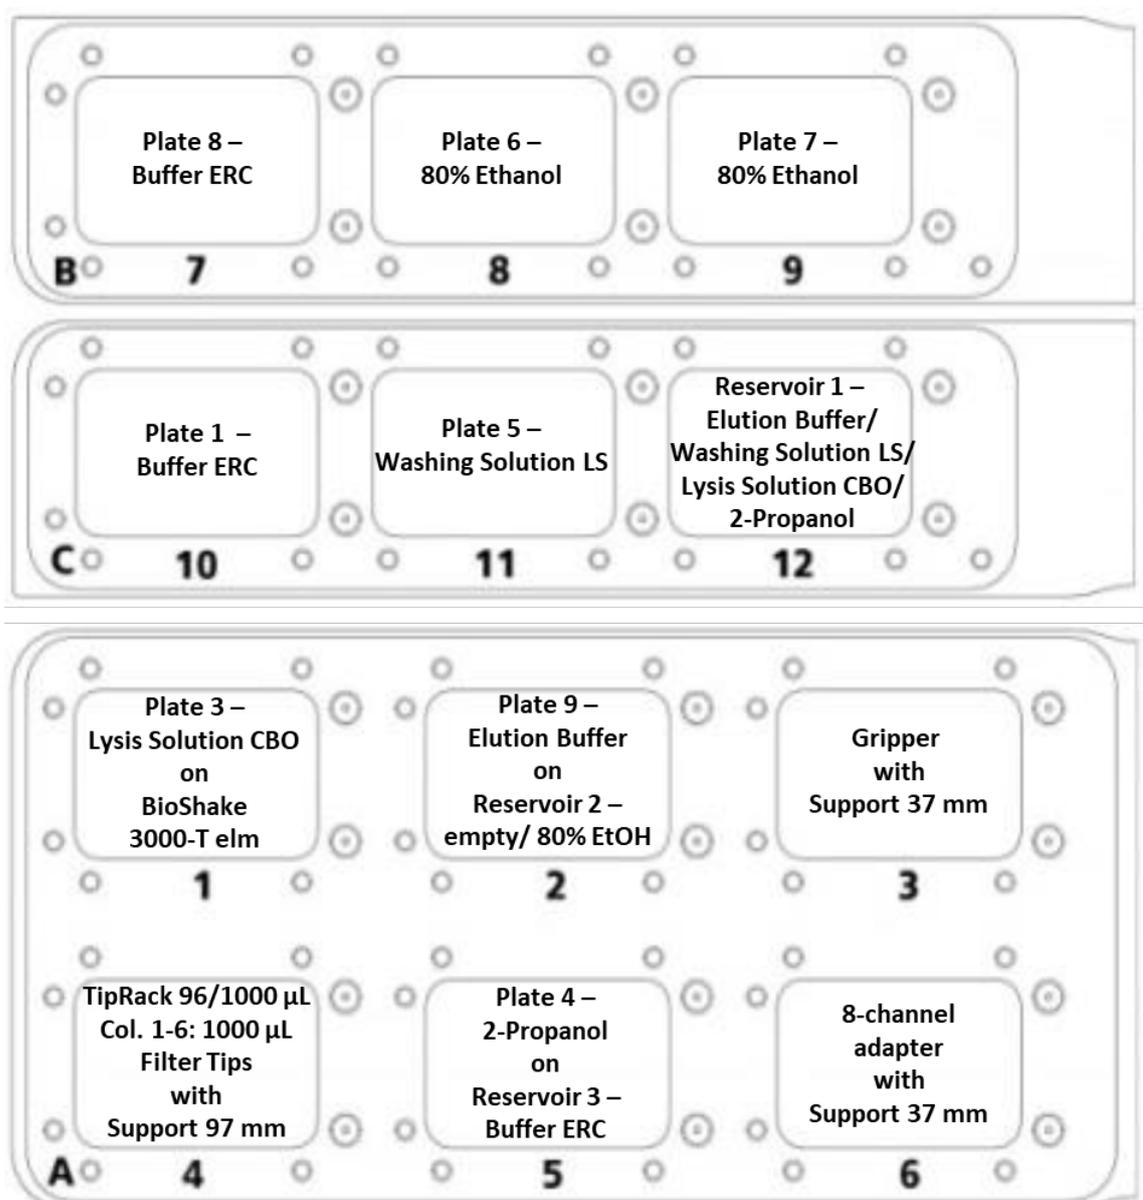

Figure 3: Deck Layout for the prefilling protocol for up to 500 μ L sample volume.
6. Transfer 40 mL **2-Propanol** into column 4 of the reservoir labeled "Reservoir 1 – Elution Buffer/ Washing Solution LS/ Lysis Solution CBO/ 2-Propanol". Place the filled reservoir into the CyBio FeliX on position 12 (→ see **Figure 3**).
7. Transfer 120 mL **80 % Ethanol** into the **right** side of the 2 column reservoir labeled "Reservoir 2 – 80% Ethanol". Place the filled reservoir into the CyBio FeliX on position 2 (→ see **Figure 3**).
8. Transfer the content of two bottles (2 x 110 mL) **Buffer ERC** into the reservoir labeled "Reservoir 3 – Buffer ERC". Place the filled reservoir into the CyBio FeliX on position 5 (→ see **Figure 3**).
10. Place the CyBio Tip Rack 96/1000 µL into the CyBio FeliX on position 4 (→ see **Figure 3**).
11. Place the 8-channel adapter (Head R 96) with the support 37 mm into the CyBio FeliX on position 6 (→ see **Figure 3**).
12. Place the empty, labeled plates on the CyBio FeliX deck according to the deck layout for up to 500 µL sample volume (→ see **Figure 3**).